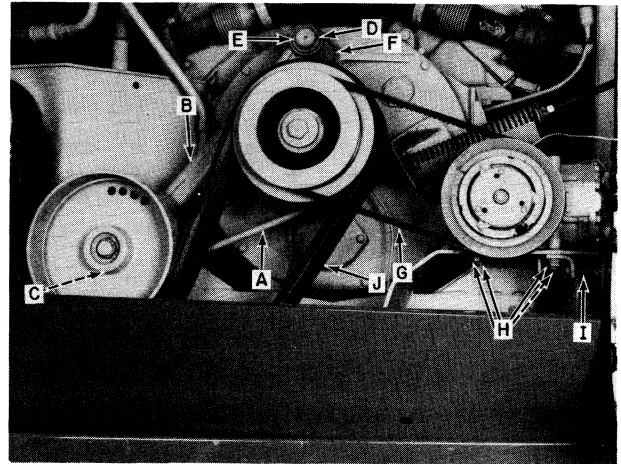

FIGURE 5A-4
9. Make four pilot bolts by cutting the heads off of 3/8" x 3-1/2" cap screws. Remove the four 3/8" cap screws at B, Figure 5A-5, and install the pilot bolts in their place.